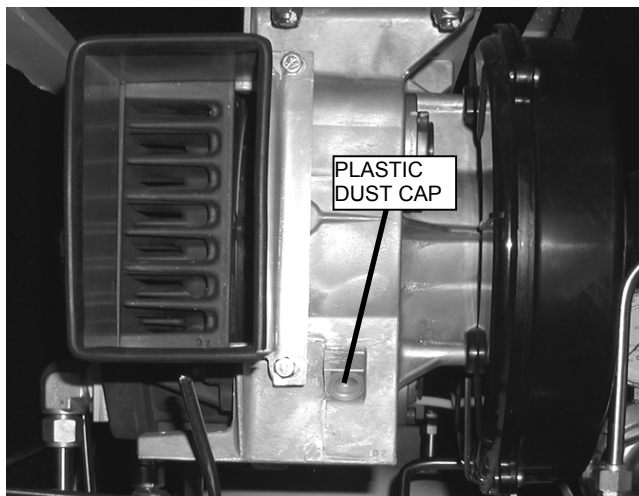

Figure 11. Scroll Compressor Grease Fitting.
- Remove the plastic dust cap (see Figure 11).